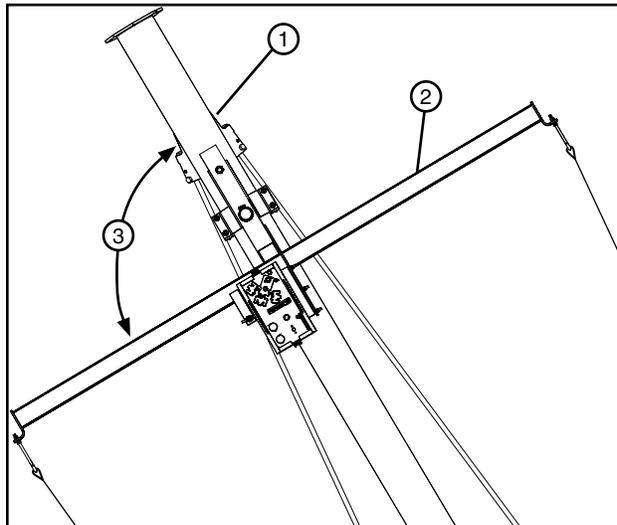

Figure 96-1 1. Span Pipe
6. Adjust the fixed end cable mount hook bolts until both the proper deflection of safety cable is achieved and the "T" bar is perpendicular (90 degrees) to the span pipe. See Figure 96-1.